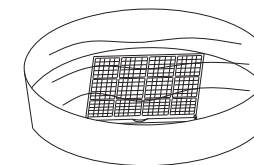

Figure 15
- 3). Put the evaporator filter frame, condenser filter frame, evaporator filter mesh, and condenser filter mesh into warm water (about 104°F) to which neutral cleaner is added for cleaning and then dry them in the shade (as shown in Figure 15).